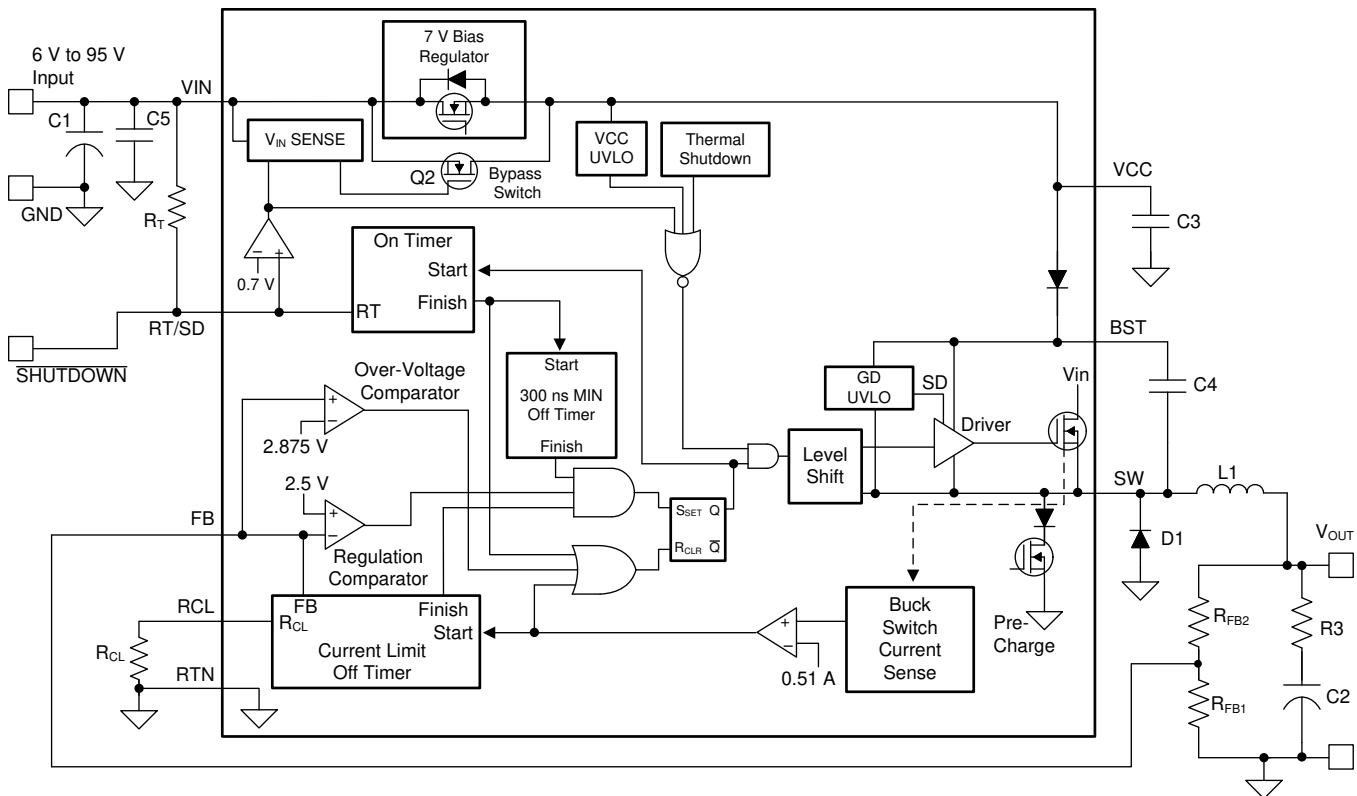

图 50. Functional Block Diagram
The output voltage (V_{OUT}) is programmed by two external resistors as shown in 图 50. The regulation point can be calculated with 公式 7.
The LM5008A regulates the output voltage based on ripple voltage at the feedback input, requiring a minimum amount of ESR for the output capacitor C2. A minimum of 25 mV to 50 mV of ripple voltage at the feedback pin (FB) is required for the LM5008A. In cases where the capacitor ESR is too small, additional series resistance may be required (R3 in the 图 50).
The high voltage bias regulator is integrated within the LM5008A. The input pin (V_{IN}) can be connected directly to line voltages between 6 V and 95 V, with transient capability to 100 V. Referring to the 图 50, when V_{IN} is between 6 V and the bypass threshold (nominally 8.5 V), the bypass switch (Q2) is on, and V_{CC} tracks V_{IN} within 100 mV to 150 mV. The bypass switch on-resistance is approximately 100 Ω , with inherent current limiting at approximately 100 mA. When V_{IN} is above the bypass threshold Q2 is turned off, and V_{CC} is regulated at 7 V. The V_{CC} regulator output current is limited at approximately 9.2 mA. When the LM5008A is shut down using the RT/SD pin, the V_{CC} bypass switch is shut off regardless of the voltage at V_{IN} .